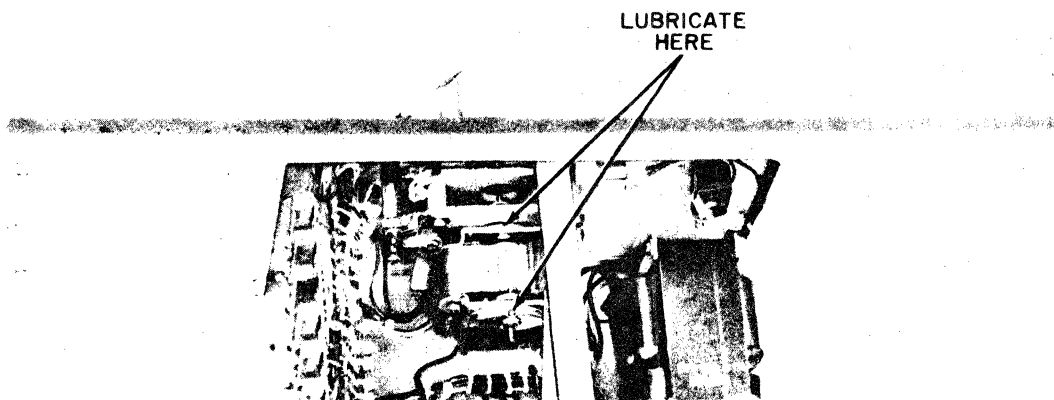

Figure 5-2. Drive Motor Lubrication Points
Apply two or three drops of ANDEROL L456 lubricant (or until felt is saturated) to drive motor lubrication points (see Figure 5-2) every 200 hours or six (6) months, whichever comes first.